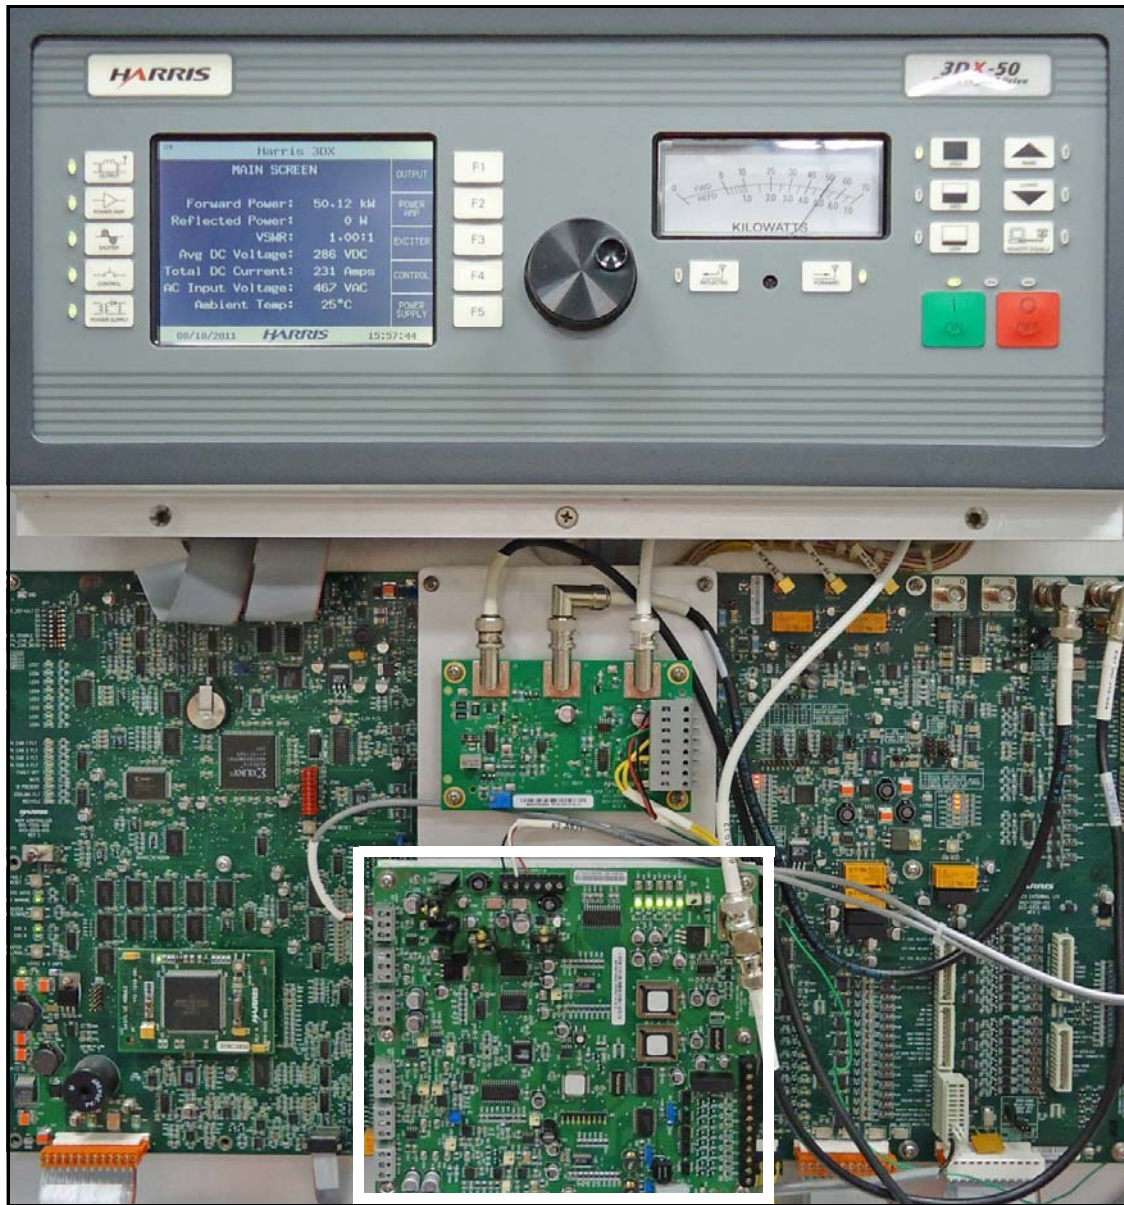

Figure 1-3
- c. Relocate the AM DAB EXT Switch w/PLL board and mounting plate pictured in Figure 1-4, to the top 4 standoffs, as in figure 1-3.